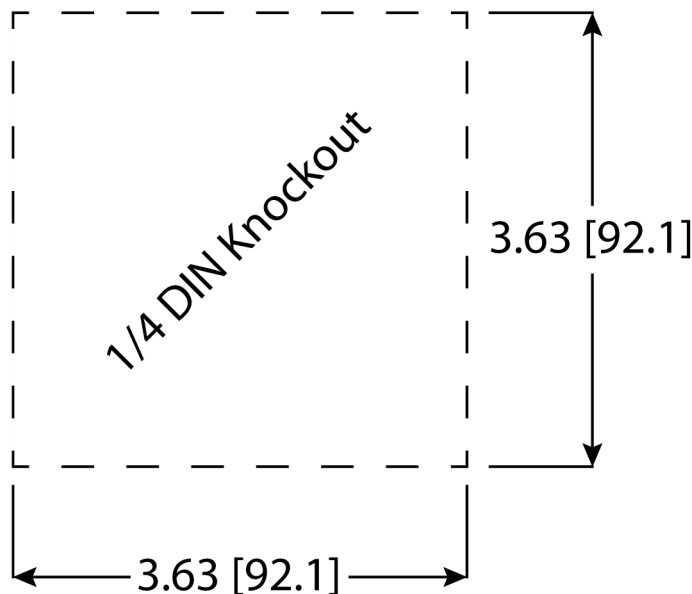

Figure 3.09: Knockout Dimensions
3. Make a 1/4 DIN (3.63 in x 3.63 in [92.1mm x 92.1mm]) size hole in the cabinet (Figure 3.09).